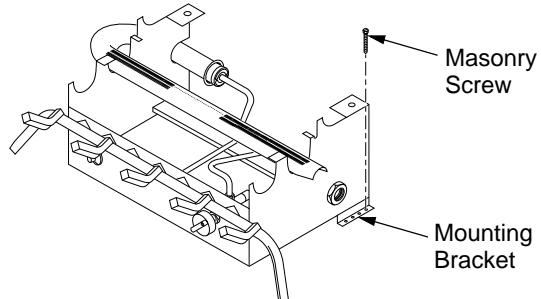

Figure 12 - Attaching Base Assembly to Fireplace Floor
- Mark screw locations through holes in mounting brackets (see Figure 12). If installing in a brick-bottom fireplace, mark screw locations in mortar joint of bricks.
- Attach base assembly to fireplace floor using two masonry screws (in hardware package) (see Figure 12).